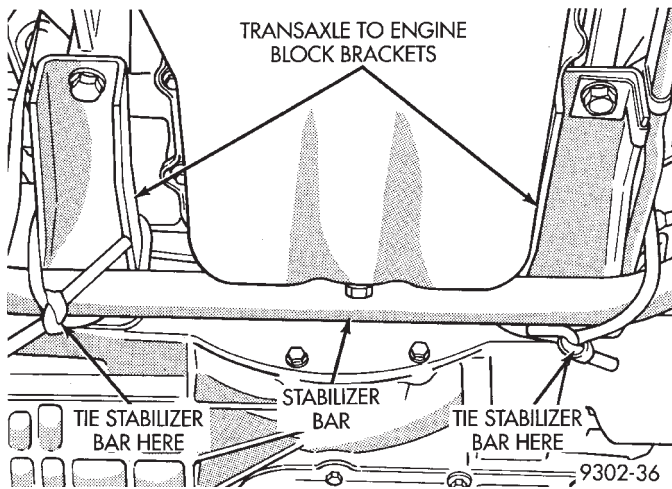

Fig. 53 Stabilizer Bar Stored For Cradle Installation
(2) Tie the stabilizer bar up against the 2 transaxle to engine block brackets (Fig. 53). This will keep stabilizer bar out of the way when installing cradle assembly.